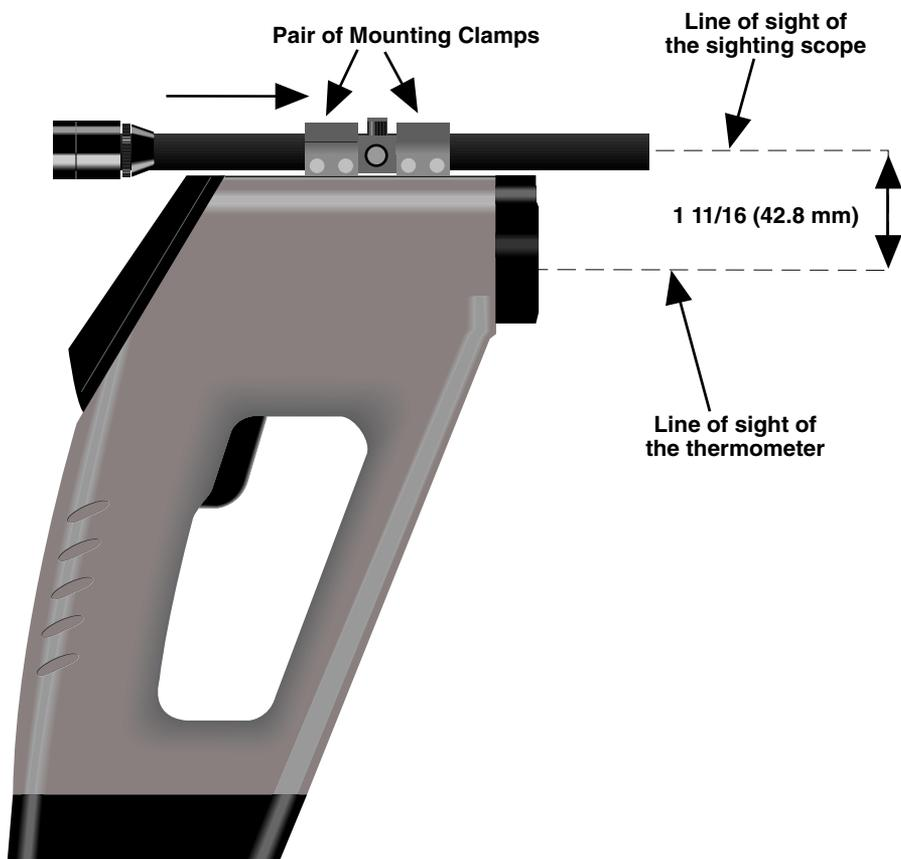

Figure 4-1. Installing the Sighting Scope
3. Slide the pair of mounting clamps over the "V" groove of the thermometer from back to front as shown in FIG 4-1. DO NOT remove the protective label from the laser sight power contacts.
Since the sighting scope mounts on top of the thermometer, the line of sight of the thermometer does not coincide with that of the sighting scope, as shown in Fig. 4-1. The distance between the two lines of sight ( $1\frac{1}{8}$ " ) becomes less critical compared to the target size when measuring distant targets (50 feet and longer).